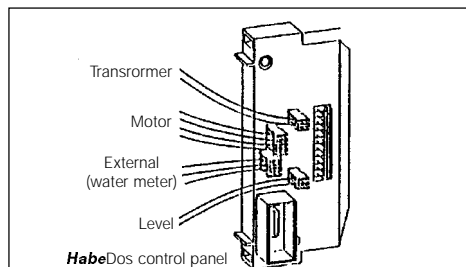

Fig. 2: Control arrangement
After assembly of the dosing computer the impulse cable (1) from the water meter (2) underneath the connection cover (10) is fed through the hole in the **HabeDos** backplate (5) and into the appliance. The plug is now plugged into the vacant position on the **HabeDos** electronic panel. (see Fig. 2).